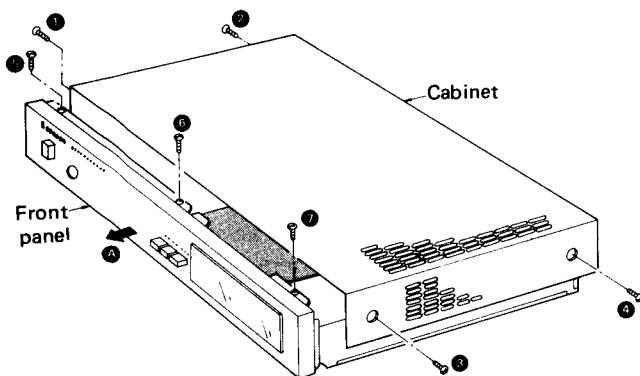
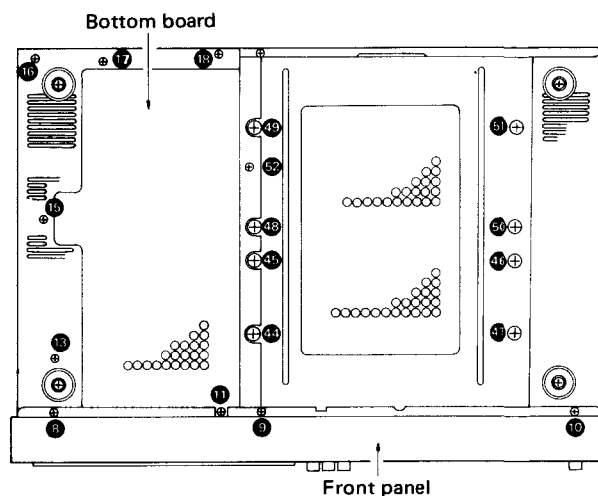

Fig. 8
Fig. 9
1. Remove the 4 setscrews (1 ~ 4 in Fig. 8) of the cabinet.
2. Remove the 6 setscrews (5 ~ 10 in Fig. 8 and Fig. 9) of the front panel.
3. Move the front panel in the direction of the arrow A in Fig. 8.
2. Remove the 6 setscrews (11, 13 and 15 ~ 18 in Fig. 9) of the bottom board.
3. Remove the 4 setscrews (44 ~ 47 or 48 ~ 51 in Fig. 9) of the power transformer and cut off the 3 lead clampers.
4. Remove the 1 setscrew (52 in Fig. 9) of the temperature detector printed circuit board bracket.
5. Remove the 1 setscrew (15 in Fig. 9) of the Heat-sink bracket.